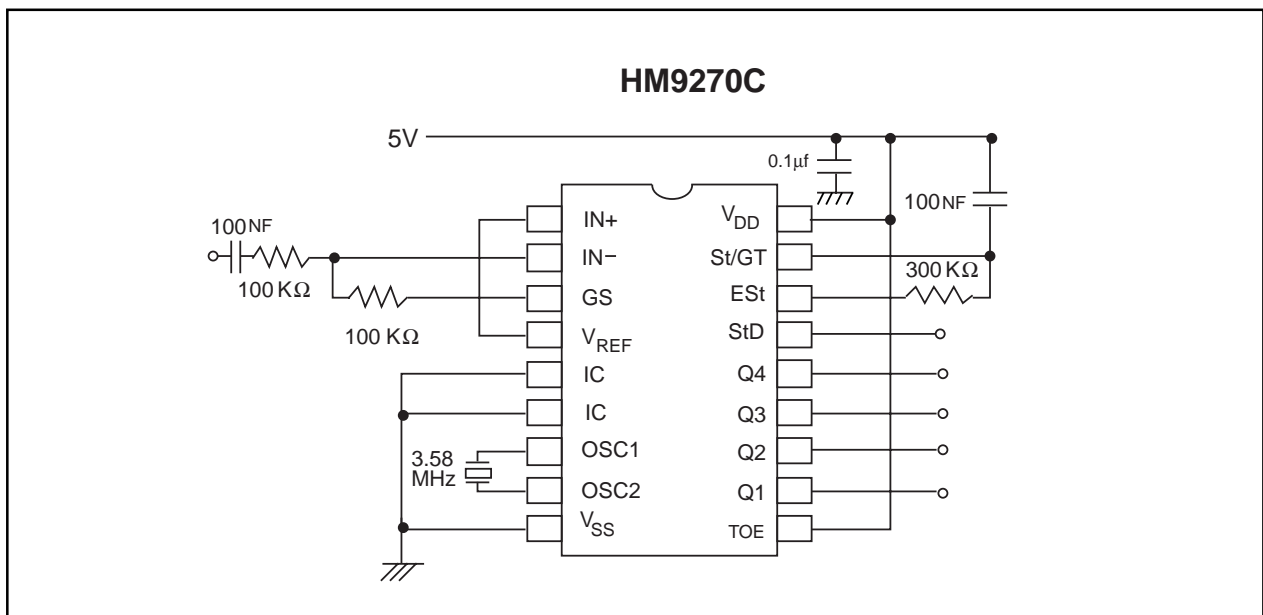
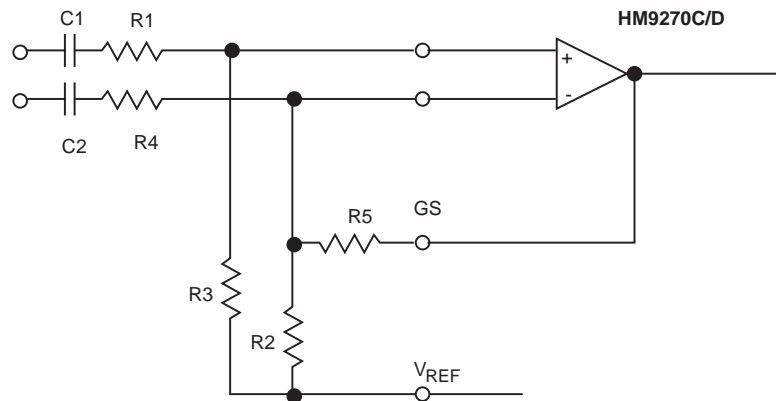

FIGURE 2. SINGLE ENDED INPUT CONFIGURATION
FIGURE 9. DIFFERENTIAL INPUT CONFIGURATION
All voltages referenced to V_{SS} unless otherwise noted. V_{DD}=5.0V, V_{SS}=0V, T_A = 25°C, F_{CLK}=3.579545 MNz, using test circuit of figure 2.
The input arrangement of the HM9270C/D provides a differential-input operational amplifier as well as a bias source (V_{REF}) which is used to bias the inputs at mid-rail. Provision is made for connection of a feedback resistor to the op-amp output (GS) for adjustment of gain. In a single-ended configuration, the input pins are connected as shown in Fig. 2 with the op-amp connected for unity gain and V_{REF} biasing the input at $1/2V_{DD}$. Fig. 9 shows the differential configuration, which permits the adjustment of gain with the feedback resistor R5.